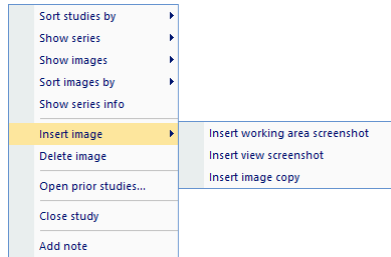

Figure 193 – Context menu of the thumbnails palette
3. Right-click to open the context menu and select the **Insert image/Insert working area screenshot** item (see Figure 193). The image from the current view is then automatically inserted at the end of the target series.
3. Right-click to display the context menu and select the **Insert image/Insert view screenshot** item (see Figure 193). The screenshot of the current view is then automatically inserted at the end of the series.
3. Right-click to display the context menu (see Figure 193) and select the **Insert image/Insert image copy** item (see Figure 193). The image from the current view is then automatically inserted at the end of the series.
2. Right-click to display the context menu (see Figure 193) and select the **Delete image** item. The image is then automatically deleted from the series.